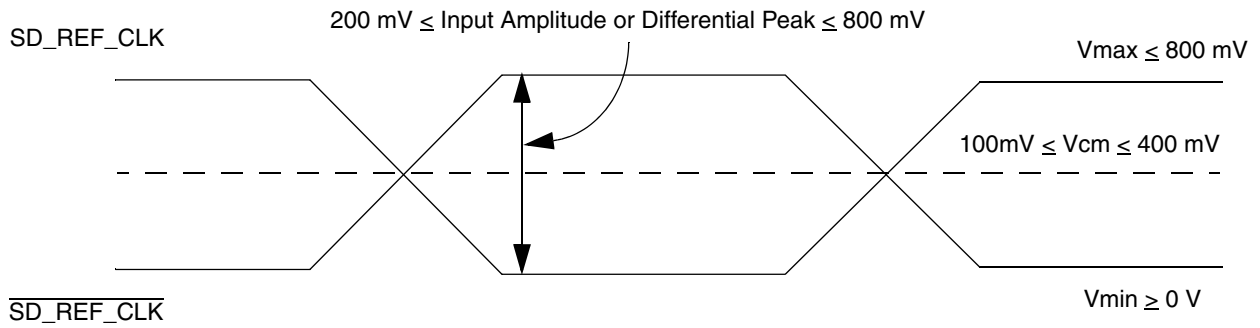

Figure 40. Differential Reference Clock Input DC Requirements (External DC-Coupled)
- For **external DC-coupled** connection, as described in Section 3.17.2.1, “SerDes Reference Clock Receiver Characteristics,” the maximum average current requirements sets the requirement for average voltage (common mode voltage) to be between 100 mV and 400 mV. Figure 40 shows the SerDes reference clock input requirement for DC-coupled connection scheme.